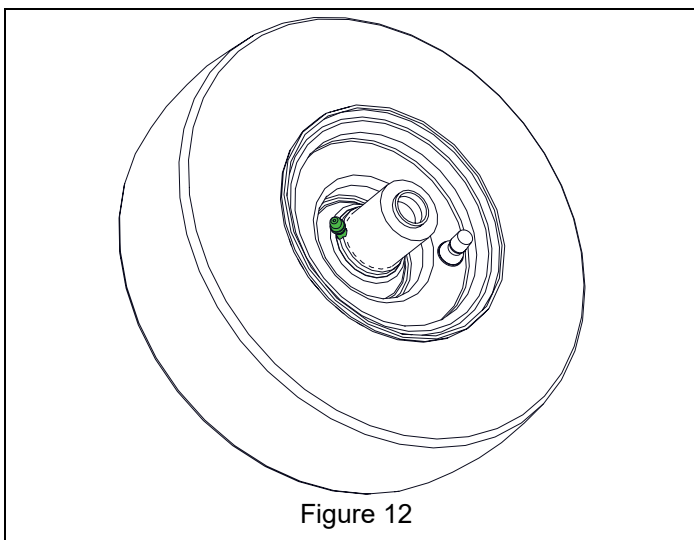

Figure 12
1. Lubricate grease fittings on front wheels. See Figure 12.